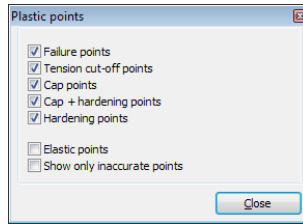
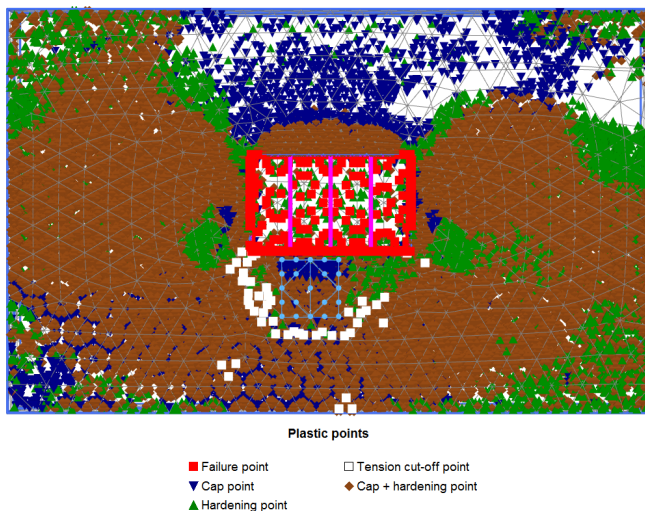

Figure 2.6 *Plastic points* window
Figure 2.7 Plastic points at the end of the final phase
- In the *Plastic points* window, Figure 2.6, select all the options except the *Elastic points* and the *Show only inaccurate points* options. Figure 2.7 shows the plastic points generated in the model at the end of the final calculation phase.